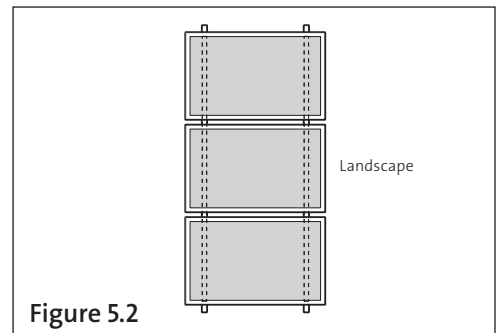

Figure 5.2
5.2. Landscape Installation (Refer to Figure 5.2)